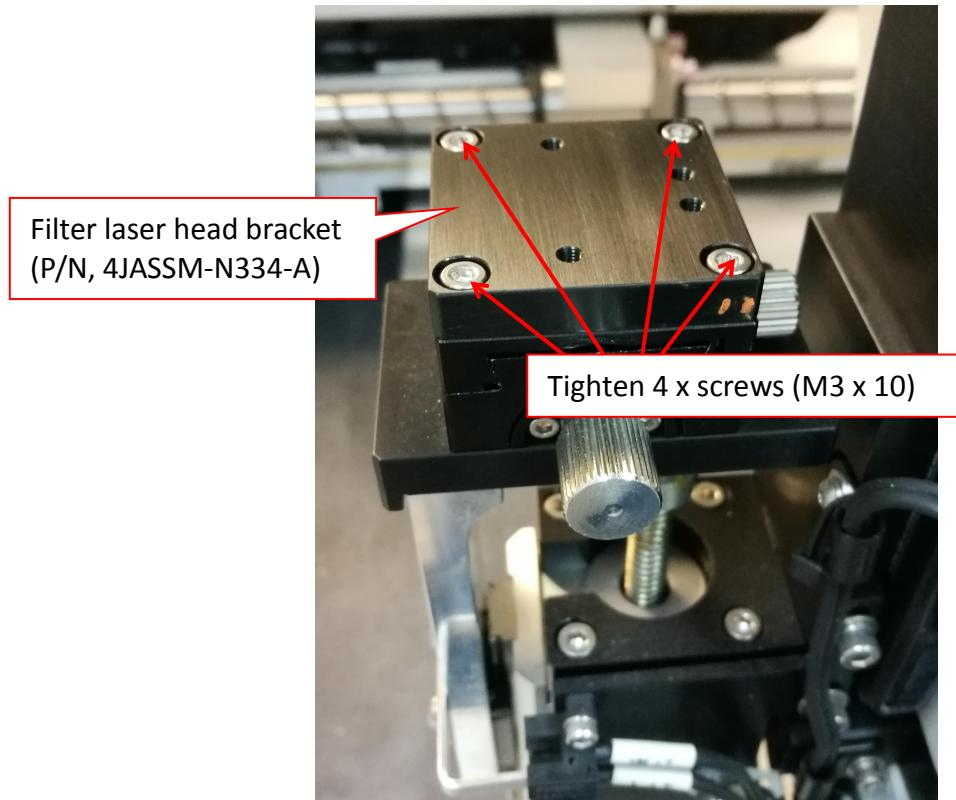

Figure 27 New filter sensor head bracket assembly
1. Assemble new filter laser head bracket (P/N, 4JASSM-N334-A) & tighten 4 x screws (SHC M3x8) as shown in Figure 27.